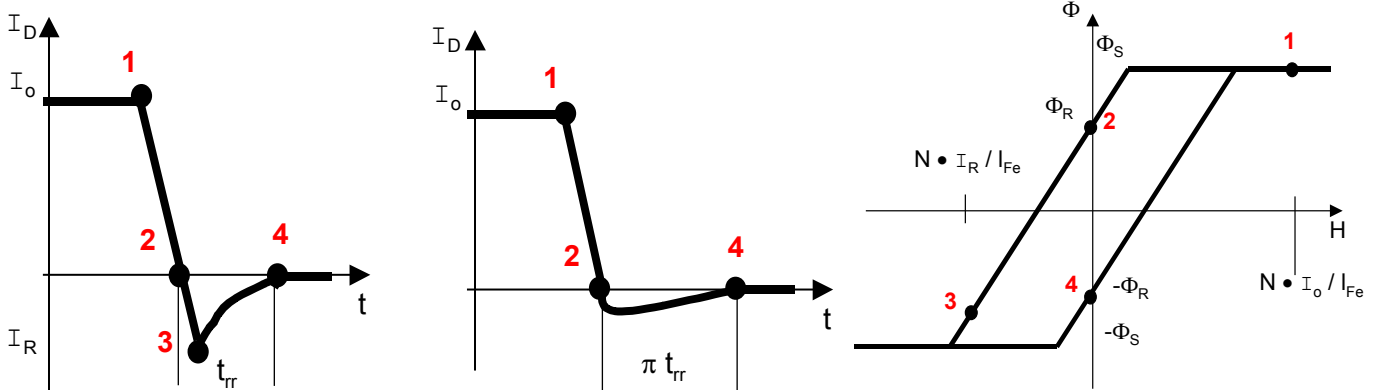

Fig. 1: Current in diode **without** Spike Blocker Fig. 2: Current in diode **with** Spike Blocker Fig. 3: Schematic hysteresis loop of Spike Blocker
Figure 1 and 2 show the current through the diode (I_D) with and without Spike Blocker, figure 3 the corresponding hysteresis loop of the core material. The Spike Blocker is saturated (= very low inductance) before and at operating point 1 and shifts to its remanence point (2) when the current is switched off. The reverse recovery effect of the diode continues to decrease the current below zero. Now, the high permeability of the amorphous material respectively high inductance of the Spike Blocker suppresses effectively current spikes with high dI/dt and enabling a so-called „soft-recovery“ of the diode (see figure 2) with decreased dI/dt . I_R is the max. reverse current of the diode corresponding to operating point 3 of the hysteresis loop. But the high inductance prevents the Spike Blocker to reach the theoretical operating point 3. The material remains in the opposite remanence (operating point 4) to get again magnetized during the next switching cycle.